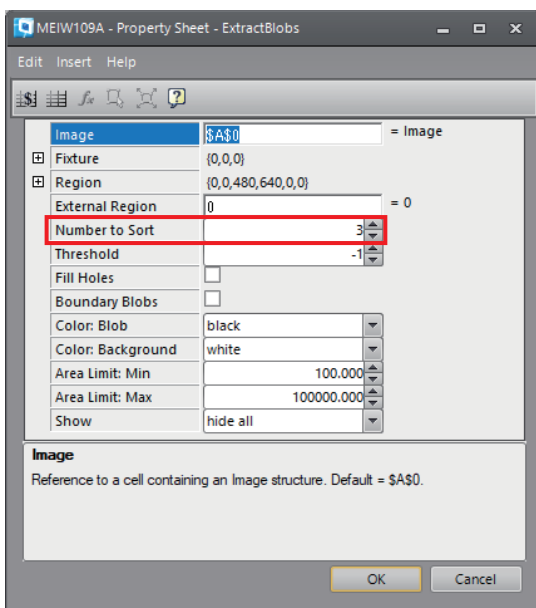

Figure 27 ExtractBlobs function property sheet
(1) Use the ExtractBlobs function to extract inspection target works. In this example, a setting for detecting three works at once is set (Figure 27).